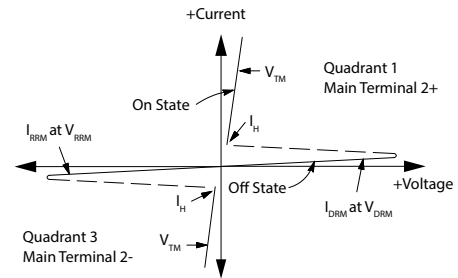

Figure 1. Current Derating
- Ratings apply for $t_w = 1$ ms. See Figure 1 for I_{TM} capability for various duration of an exponentially decaying current waveform, t_w is defined as 5 time constants of an exponentially decaying current pulse.
- Ratings apply for $t_w = 1 \text{ ms}$. See Figure 1 for I_{TM} capability for various durations of an exponentially decaying current waveform. t_w is defined as 5 time constants of an exponentially decaying current pulse.